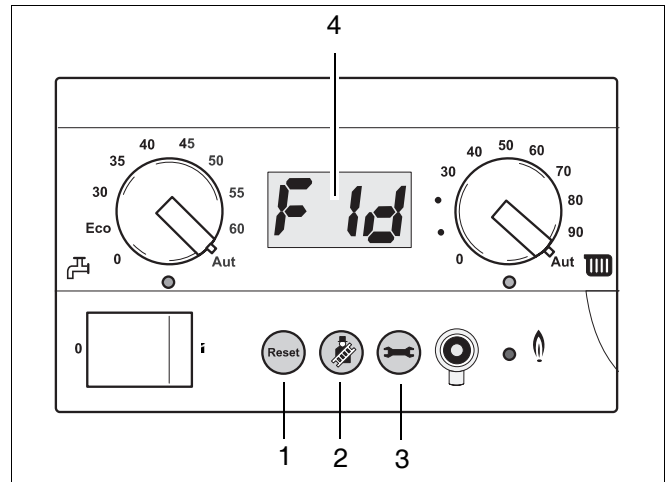

Fig. 6 BC10; frost hazard
- Press the chimney sweep button and the service button (see fig. 6, item 2 and 3) simultaneously until "L--" appears in the display.
- Set the pump run over time to "F1d" (fig. 6, item 4) when there is a frost hazard.
- Confirm the selection by pressing the service button (fig. 6, item 3).
Operating conditions and possible faults are shown on the display (fig. 6, item 4). The codes consists of two characters.